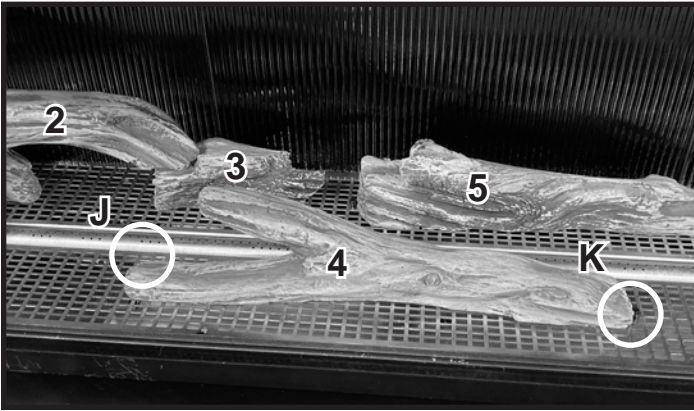

Figure 7 Install Log #4
**Log #4:** Place Log #4 against the right log pin (K). Pivot the log backward until it contacts the left log pin (J). See Figure 7.